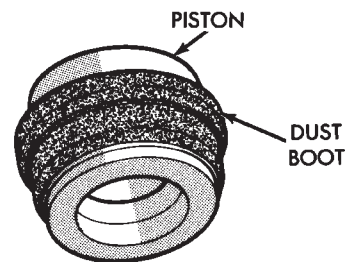

Fig. 72 Dust Boot On Piston
- (5) Install new dust boot on caliper piston and seat boot in piston groove (Fig. 72).